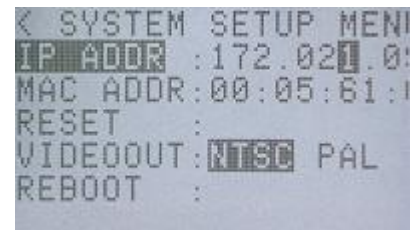

Figure 5-25 IP ADDR
- 2) Use the arrows   to select "IP ADDR" from the SYSTEM SETUP MENU and press SET  (Figure 5-25). The IP address and sub net mask will be displayed.